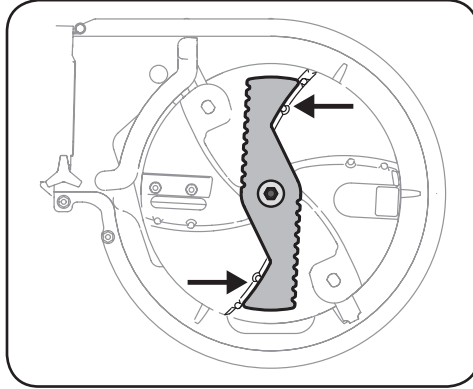

Figure 5-17
- Install a replacement blade (Part No. 742-05239) with the hardware removed earlier. See Figure 5-17.